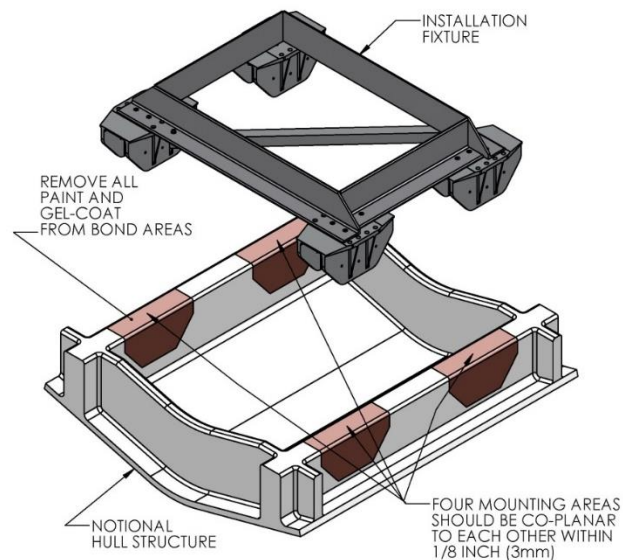
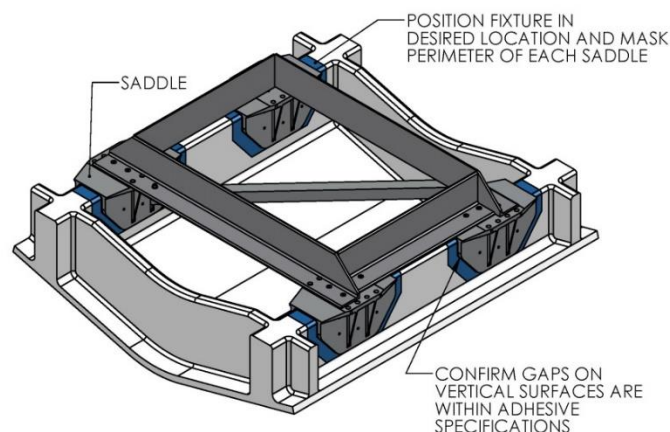

FIGURE 9 - INSTALLING FIXTURE ON HULL
FIGURE 10 - MASKING PERIMETER OF SADDLES
The hull structure supporting the Seakeeper should be installed so the Seakeeper is parallel to the water plane in the port/starboard and forward/aft directions. **In addition, the four areas on top of the beams on which the isolation mounts will rest need to be co-planar within 1/8th inch (3 mm) to minimize potential distortion of Seakeeper support frame when installed. (Similar to Figure 9).**
- 2) **The four areas where the isolation mounts will rest should be coplanar to within 1/8" (3 mm). See Figure 9.** Do not use the fixture to check co-planarity as it is not stiff enough.
- 1) Position installation fixture (Fig 9) on hull girders noting recommended clearances for maintenance from Figure 2. Check that the screws fastening the saddles to the installation fixture are tight (Fig 6).
- 2) Mask hull area (as shown in blue, Fig 10) around foundation saddles for easy clean-up and to create outline of surface area to receive adhesive as shown in brown, Fig 9. Insure that the bond gap is within adhesive manufacturer's recommended thickness, or 3 mm if using Plexus MA590.
- 4) Thoroughly clean with alcohol or acetone all areas (highlighted in brown, Fig 9) of girders to be bonded to remove any contaminants. Use new paper towels for cleaning, not shop rags.
- 9) Lift installation fixture clear of foundation. Apply Seakeeper provided adhesive backed foam strips at the eight locations shown (each end of four saddles) in Figure 10 below. These strips are to serve as a dam to minimize adhesive escaping out the ends of the saddles as they are positioned over the bond area.